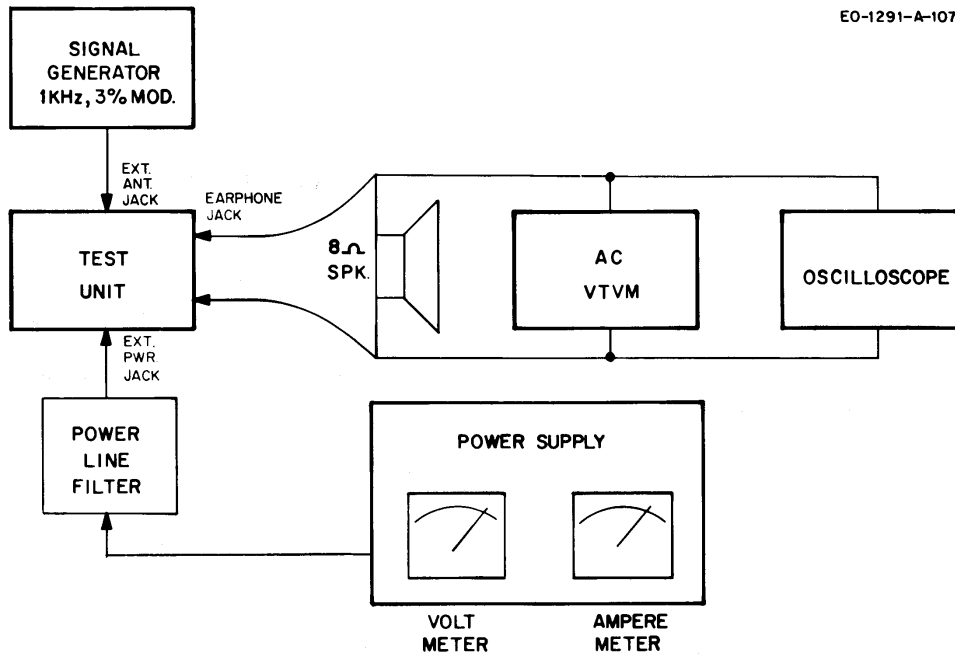

Figure 3-4. Equipment Set-up, Receiver Alignment
2. Connect the remainder of the test equipment as shown in Figure 3-4.